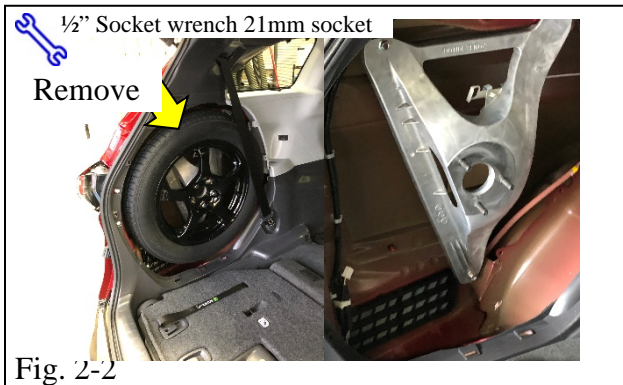

Fig. 2-2
- (b) If equipped, remove 3 lug nuts to remove spare tire (Fig. 2-2).